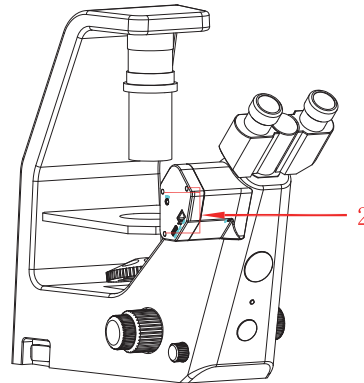

Figure 2
(2) Camera assembly, as shown in Figure 2:
- 1) Mount the camera on the microscope, the position and direction are shown in Figure 2;